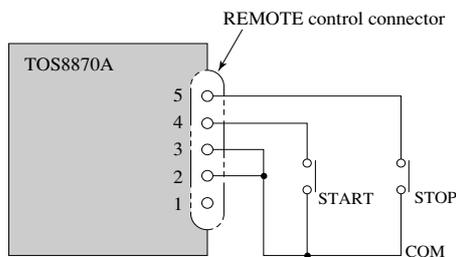
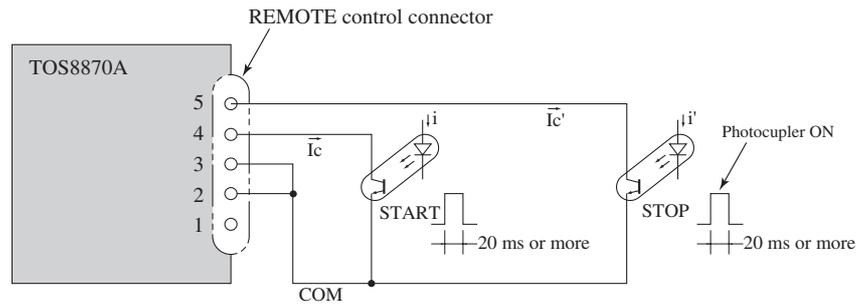

Fig.3-4
Fig.3-6
By controlling the START and STOP contacts shown in Fig.3-4, test voltage can be on-off controlled in the same manner as done at the Tester front panel. However, when the FAIL ALARM of TEST MODE switch on the rear panel is OFF. For details, refer to "3.7 Special Test Modes" on page 25.
Logical elements, transistors or photocouplers may be used instead of the switches in Fig.3-4.
The example is shown in Fig.3-6. The input conditions of the Tester for such operation are as follows:
- When using the CURRENT MONITOR terminals, isolate the common line (line COM in Fig.3-6) of the control circuit from the power line and ground line of the Tester.
With a view to prevent erroneous operation which could be caused by noise, it is recommendable to use photocouplers as shown in Figure 3-6 or relays as shown in Fig.3-4.